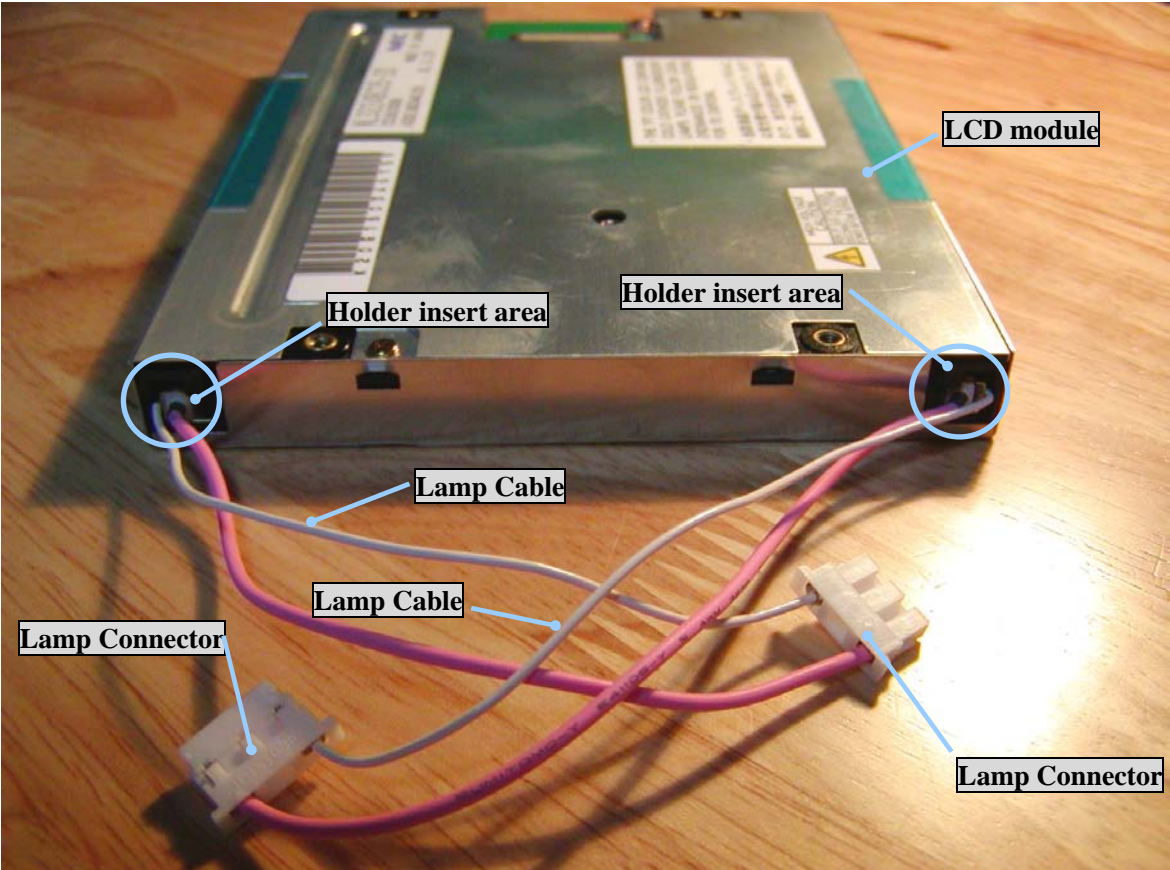
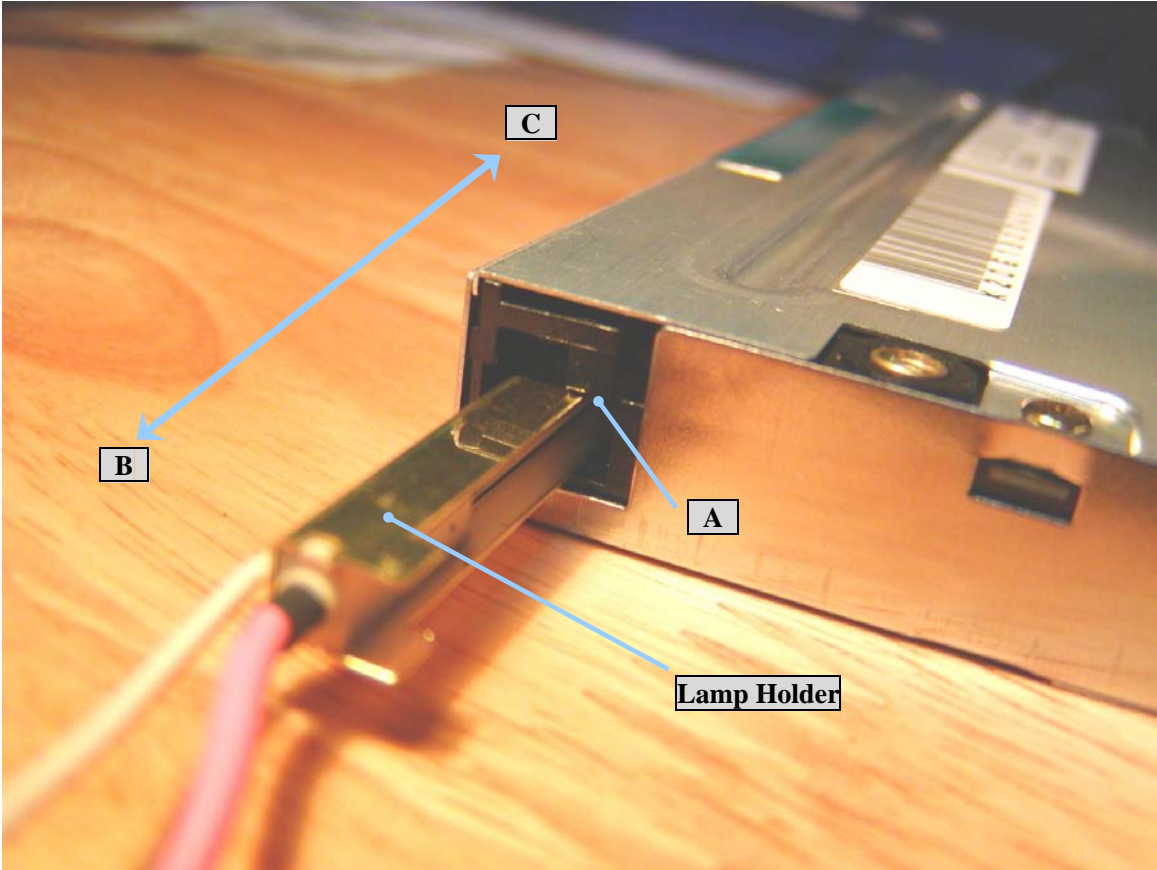

Fig.1 LCD module
Fig.2 Around the Lamp Holder
Refer to the Fig.1 and Fig.2.
- (1) Put on the fingerstalls and attach the grounding band.
- (2) Turn the ionizer switch on.
- (3) The LCD module should be kept turned off, and wait for a while until the backlight get cool down enough.
- (4) Put the LCD module display side up on the flat workbench, which is equipped for static charge prevention.
- (5) Pull out the lamp cable plug from lamp connector in Figure. Do not fold the high voltage cable as sharp folds can cause permanent damage.
- (6) Release the lamp holder from clamped portion **A** in figure 2 pushing up portion **A**.
- (7) Slowly, gently and in a straight line pull out the lamp holder in the direction of the arrow **B** in figure 2. If the lamp was broken inside of backlight lamp, carefully pull out the lamp holder. If pieces of glass remain inside the enclosure, carefully remove them.
- (8) Slowly, gently and in a straight line push in the lamp holder in the direction of the arrow **C** and lock portion **A** in figure 2.
- (9) Replace the lamp holder. The up side lamp holder is the same as down side.
- (10) Fix the lamp holder through the clamp position **A** in figure 2.
- (11) Replace the lamp holder is possible to set in the upper side lamp and the lower side.